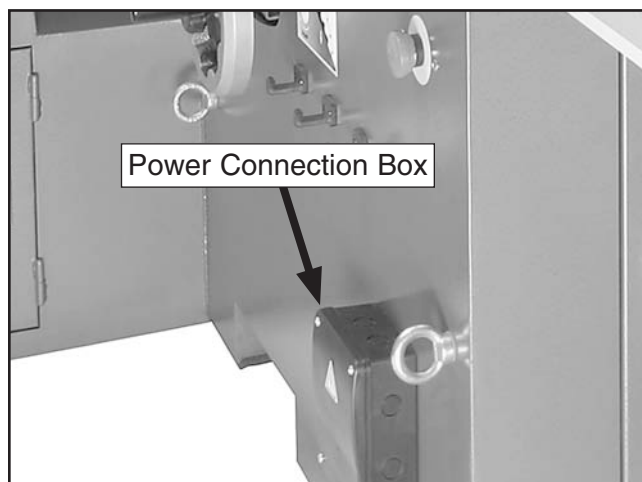

Figure 51. Power connection box.
1. Open the power connection box shown in **Figure 51**.